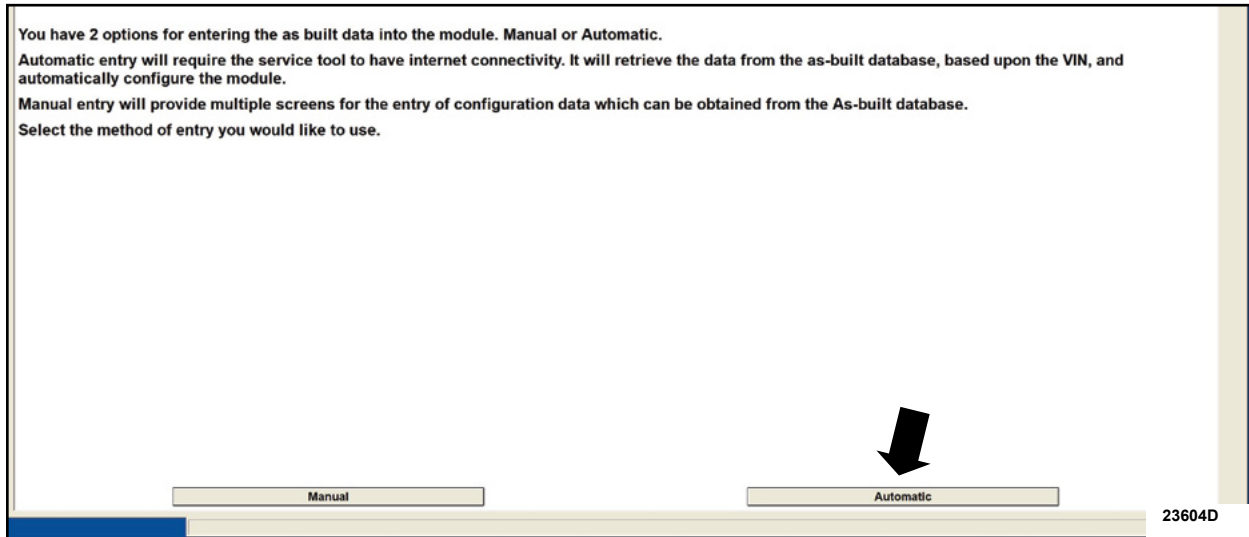

FIGURE 2
4. When asked which option to enter the as built data into the module, select **Automatic**. See Figure 2.